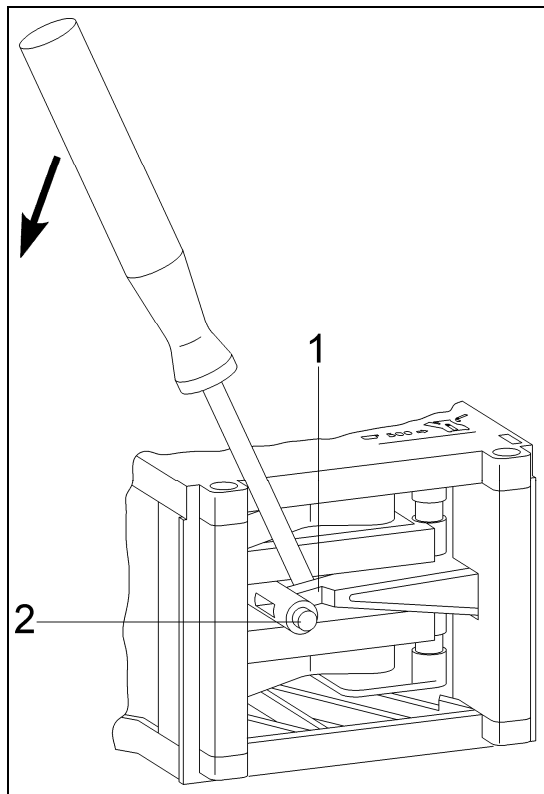

Figure 5-32: Releasing the Ram on the Underside of the Brew Unit
5. Unclip the lever (Figure 5-32, Item 1) from the ram (Figure 5-32, Item 2).